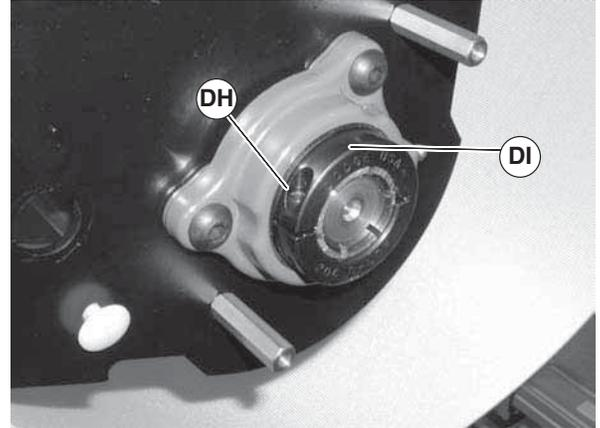

Figure 100
9. Loosen clamp screw (Figure 100, item DH) and remove bearing collar (DI).